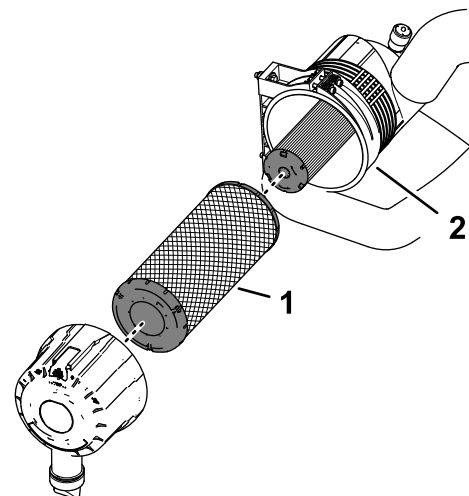

Figure 64
7. Remove the primary-filter element (Figure 64).